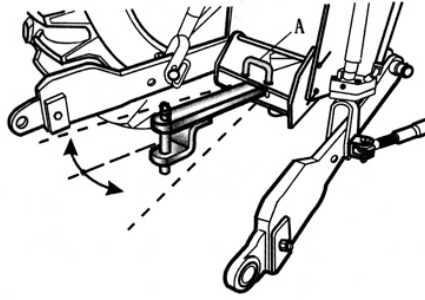

Fig.4-39 Swing draft lever
Swing lever can only be used to trail implement and two-axle trailer, but not single-axle trailer. Otherwise, load on draft lever will make tractor head lifted (Fig. 4-39).
- (2) Changing the mounting site of U-pin “A” can adjust the horizontal position of towing point (Fig.4-39).